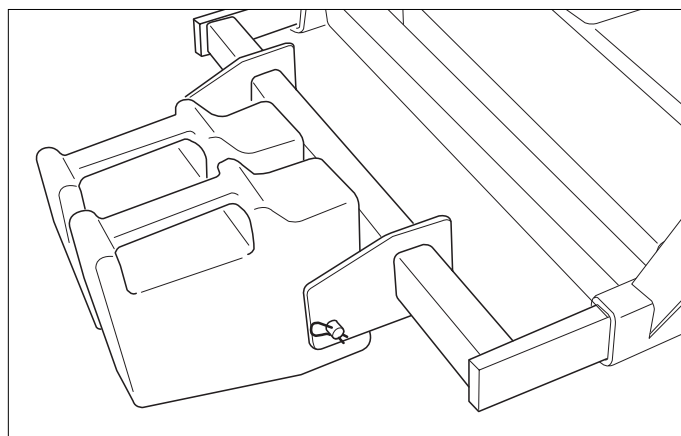

Figure 47. Weight & Retainer Rod Installation
6. Install the counter weights supplied with the grass collector on the weight mount rack (see Figure 47).
*NOTE: Three (3) counterweights for the 3-Bag system, two (2) counterweights for the E-Z Dump system.*
7. Install the weight retainer rod through the weight mount rack and secure with the hairpin clips (see Figure 47).